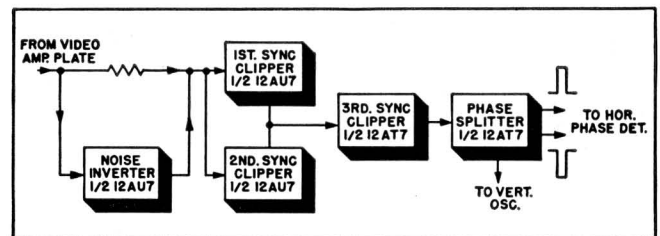

Figure 10. Block diagram of sync circuits.
**SYNC CIRCUITS.** — The sync circuits consist of a noise inverter, three sync-clipper stages and a phase splitter, as shown in the block diagram of figure 10.